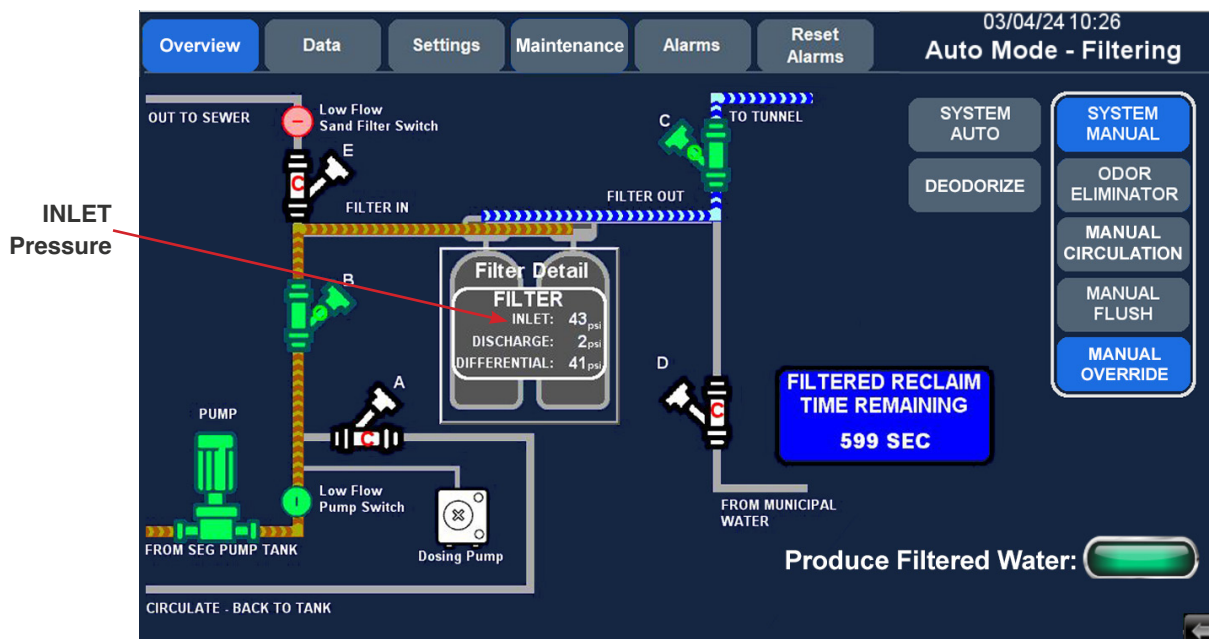

Fig 4.3 - 1 - HMI Overview screen
- Navigate to the **Overview** screen and select **SYSTEM MANUAL** (Fig. 4.3 - 1).
1. Navigate to the **Overview** screen and press **SYSTEM MANUAL** (Fig 4.3 - 1).
2. Press **MANUAL CIRCULATION** (Fig. 4.3 - 1). Manual circulation allows air to be purged from the line and ensure discharge.
3. Press **MANUAL FILTERING** (Fig. 4.3 -1).
4. Check the **INLET** pressure during this process (Fig 4.3 - 1). If the **INLET** pressure is low (10-15 psi), switch the phasing on the SEG Pump motor, then re-initiate manual filtering and check the **INLET** pressure again.